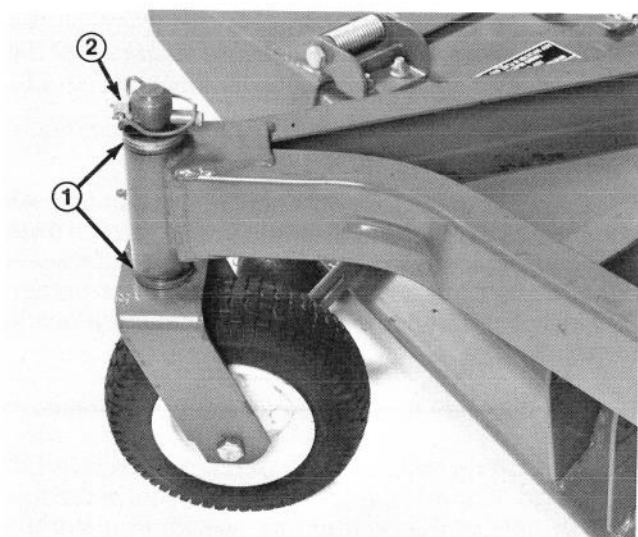

Figure 28
A. Cutting units usually operated at 1 to 2 in. (25 to 51 mm) height-of-cut should have the low side of the cutting unit raised. Remove the lynch pin securing castor wheel on low end (Fig. 28) and remove castor assembly.
- C. If cutting unit is operated at 2 to 4 in. (51 to 102 mm) height-of-cut, lower the high side of cutting unit. Remove lynch pin of castor at high end of unit and remove castor assembly (Fig. 28).